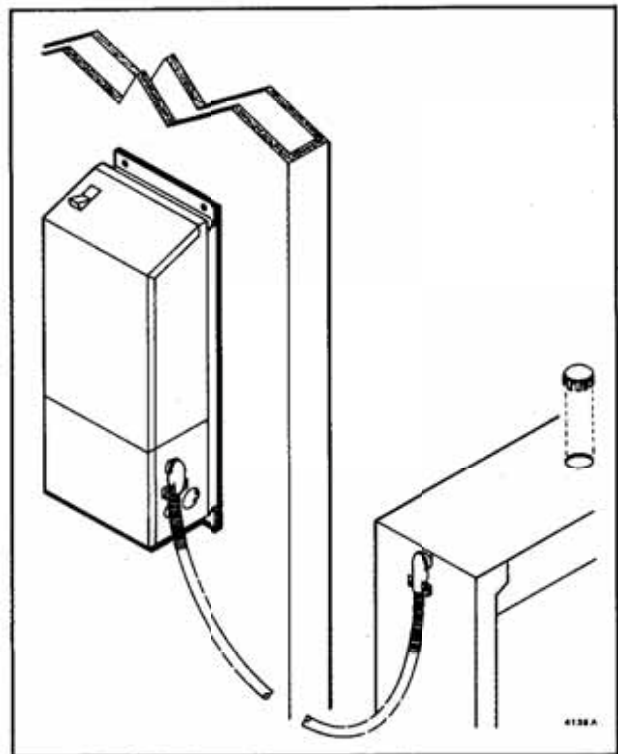

FIG. 27—FLEXIBLE CONDUIT CONNECTS AIR CLEANER CABINET TO REMOTE POWER SUPPLY.
5. Bolt the new conduit to the back of the cabinet and to the junction box (Fig. 27).